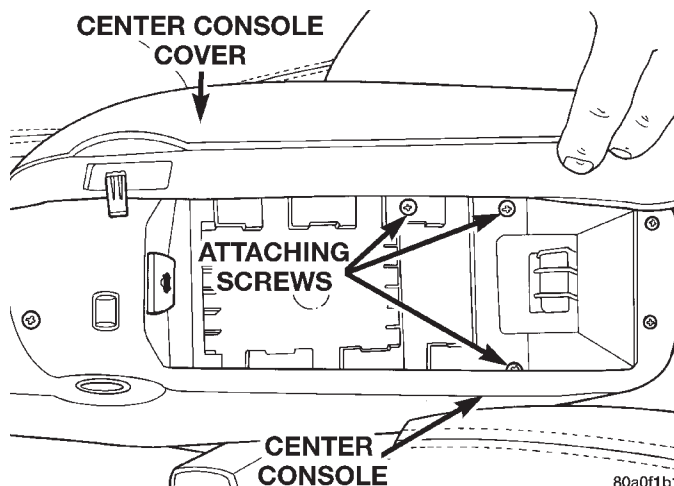

**Fig. 133 Center Console Rear Attaching Screws**
(4) Remove the 3 screws attaching the rear of the center console to the console bracket (Fig. 133).
(23) Install the 3 screws attaching the rear of the center console to the console bracket (Fig. 133).